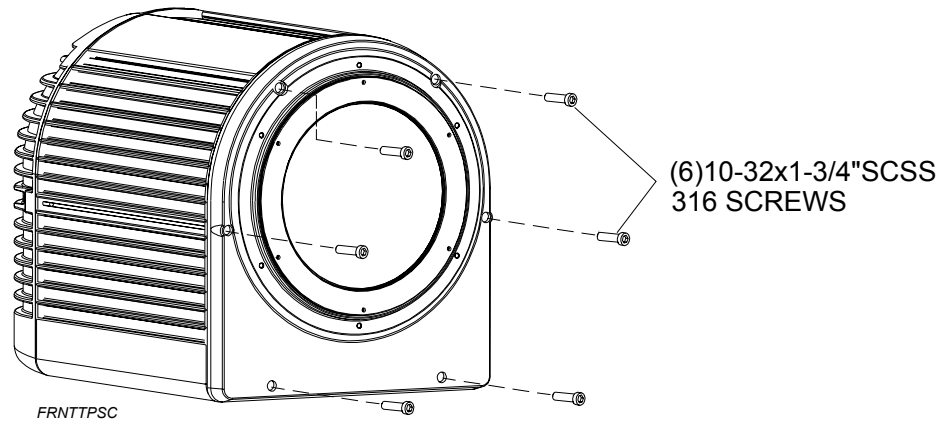

Figure 7.2 - Six Front Head Assembly Screw Installation
4. At front of head assembly, remove six 10-32x1-3/4" PPSS screws and replace with six 10-32x1-3/4" SCSS 316 Screws (Figure 7.2).